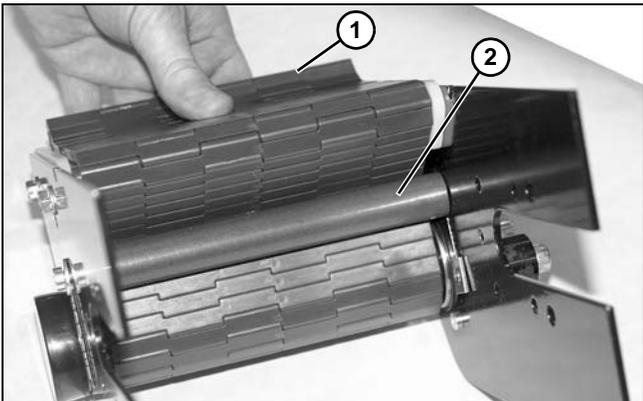

Figure 124
15. Remove belt (Figure 124, item 1) from around tensioning rod (Figure 124, item 2).